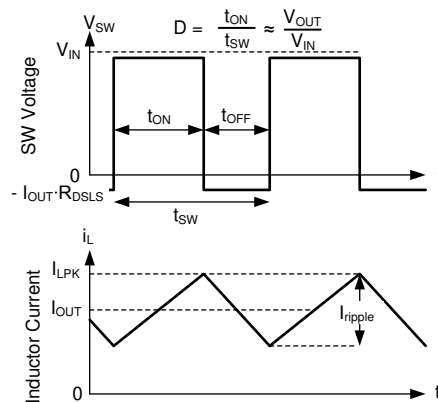

Figure 24. SW Voltage and Inductor Current Waveforms in Continuous Conduction Mode (CCM)
The following operating description of the LM61460-Q1 refers to the Functional Block Diagram and to the waveforms in Figure 24. In CCM, the LM61460-Q1 supplies a regulated output voltage by turning on the internal high-side (HS) and low-side (LS) NMOS switches with varying duty cycle (D). During the HS switch on-time, the SW pin voltage, V_{SW} , swings up to approximately V_{IN} , and the inductor current, i_L , increases with a linear slope. The HS switch is turned off by the control logic. During the HS switch off-time, t_{OFF} , the LS switch is turned on. Inductor current discharges through the LS switch, which forces the V_{SW} to swing below ground by the voltage drop across the LS switch. The converter loop adjusts the duty cycle to maintain a constant output voltage. D is defined by the on-time of the HS switch over the switching period: